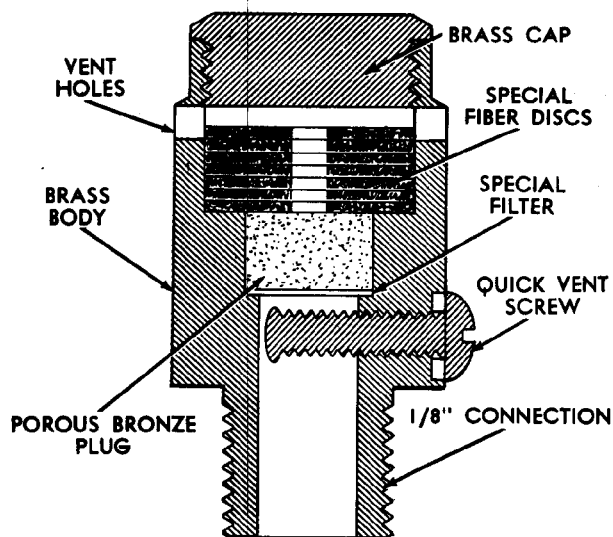

Figure 4-5. Automatic radiator vent.
b. Description. Simple manual vents operated by a key or screwdriver are most generally used (fig. 4-4). Where venting requirements are severe or maintenance is difficult, automatic radiator vents operated by a float or expanding disk can be used (fig. 4-5).